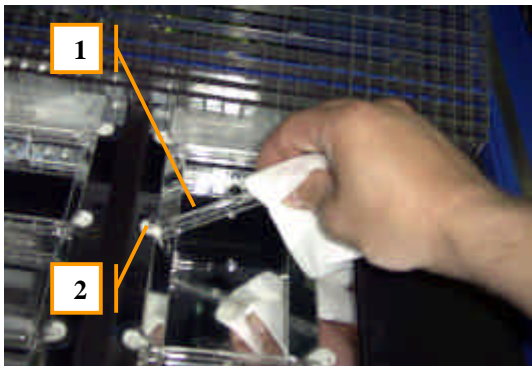

Figure 33: Replacing the bottom heater quartz lamps
2. To change the bottom heater quartz lamps, remove the base cover plate (Fig. 7, Item 5) and collimator grille (Fig. 7, Item 6), and then follow the steps outlined in Figures 33 and 34, below.